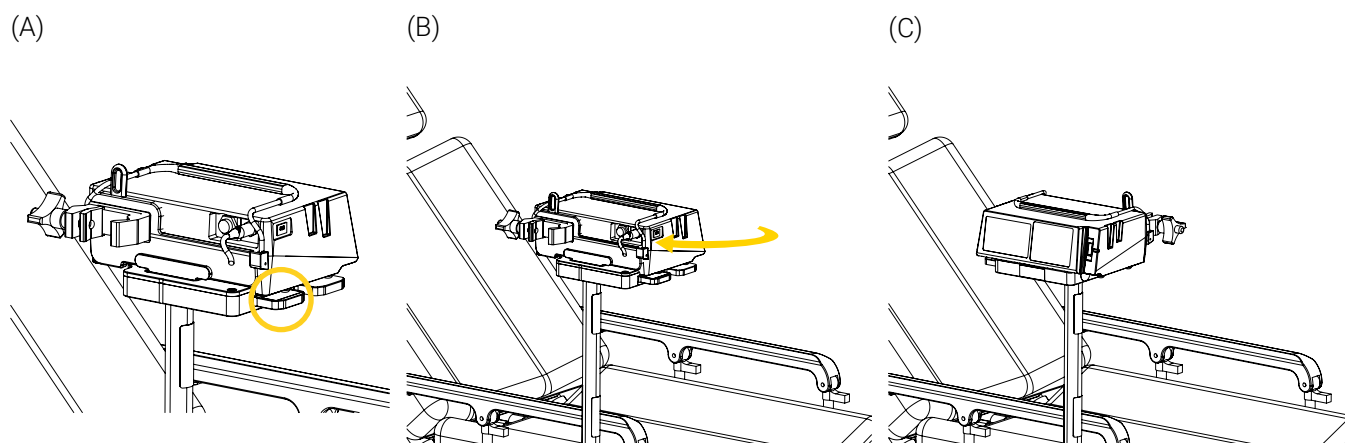

Figure 11: Rotating the NVM Support Bracket
3. Press and hold the rotation/quick release button on the support bracket (Figure 11 A), turn it clockwise or counterclockwise 180° until it reaches the end of its course (Figure 11 B), then release the button to lock the bracket in the final position (Figure 11 C).